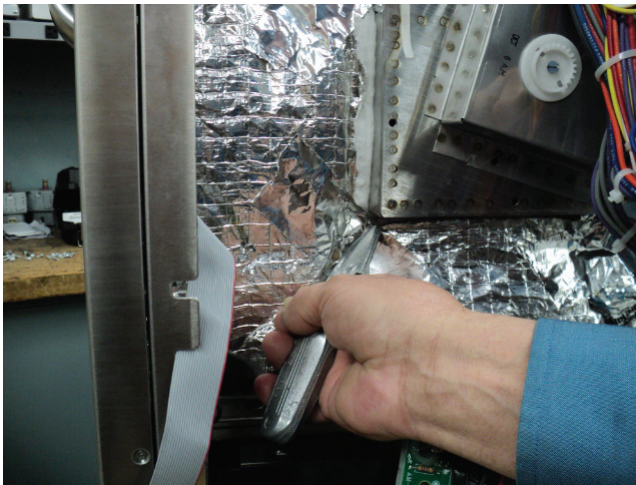

Figure 15
1. Diagonally cut insulation at each corner of the feed box (Figure 15).